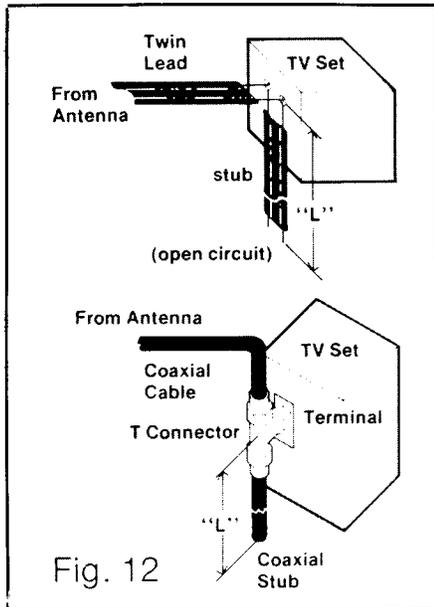

Fig. 12
3. Another type of stub, called an open circuit quarter-wave type, can be made from the same type of wire as the antenna lead-in wire (see Figure 12). The initial